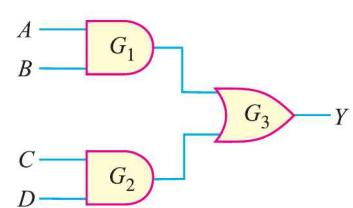

Fig. 26.46
The output of a logic circuit for the given inputs can be determined directly from the circuit *without* using the Boolean expression. The procedure is to take a given set of inputs and work through each gate of the circuit to determine the final output. Let us illustrate the procedure with an example. Consider the logic circuit shown in Fig. 26.46. It consists of two AND gates and one OR gate. Each of the three gates has two input variables. Each of the input variables can be either a high (1) or a low (0). Since there are four input variables, there are 16 possible combinations of the input variables ($2^4 = 16$). We shall develop the truth table for the circuit without using the Boolean expression for the circuit.
Note. We can also construct the truth table by developing the Boolean expression from the logic circuit. The logic circuit shown above (See Fig. 26.46) is redrawn as shown in Fig. 26.47. The Boolean expression for this logic circuit is